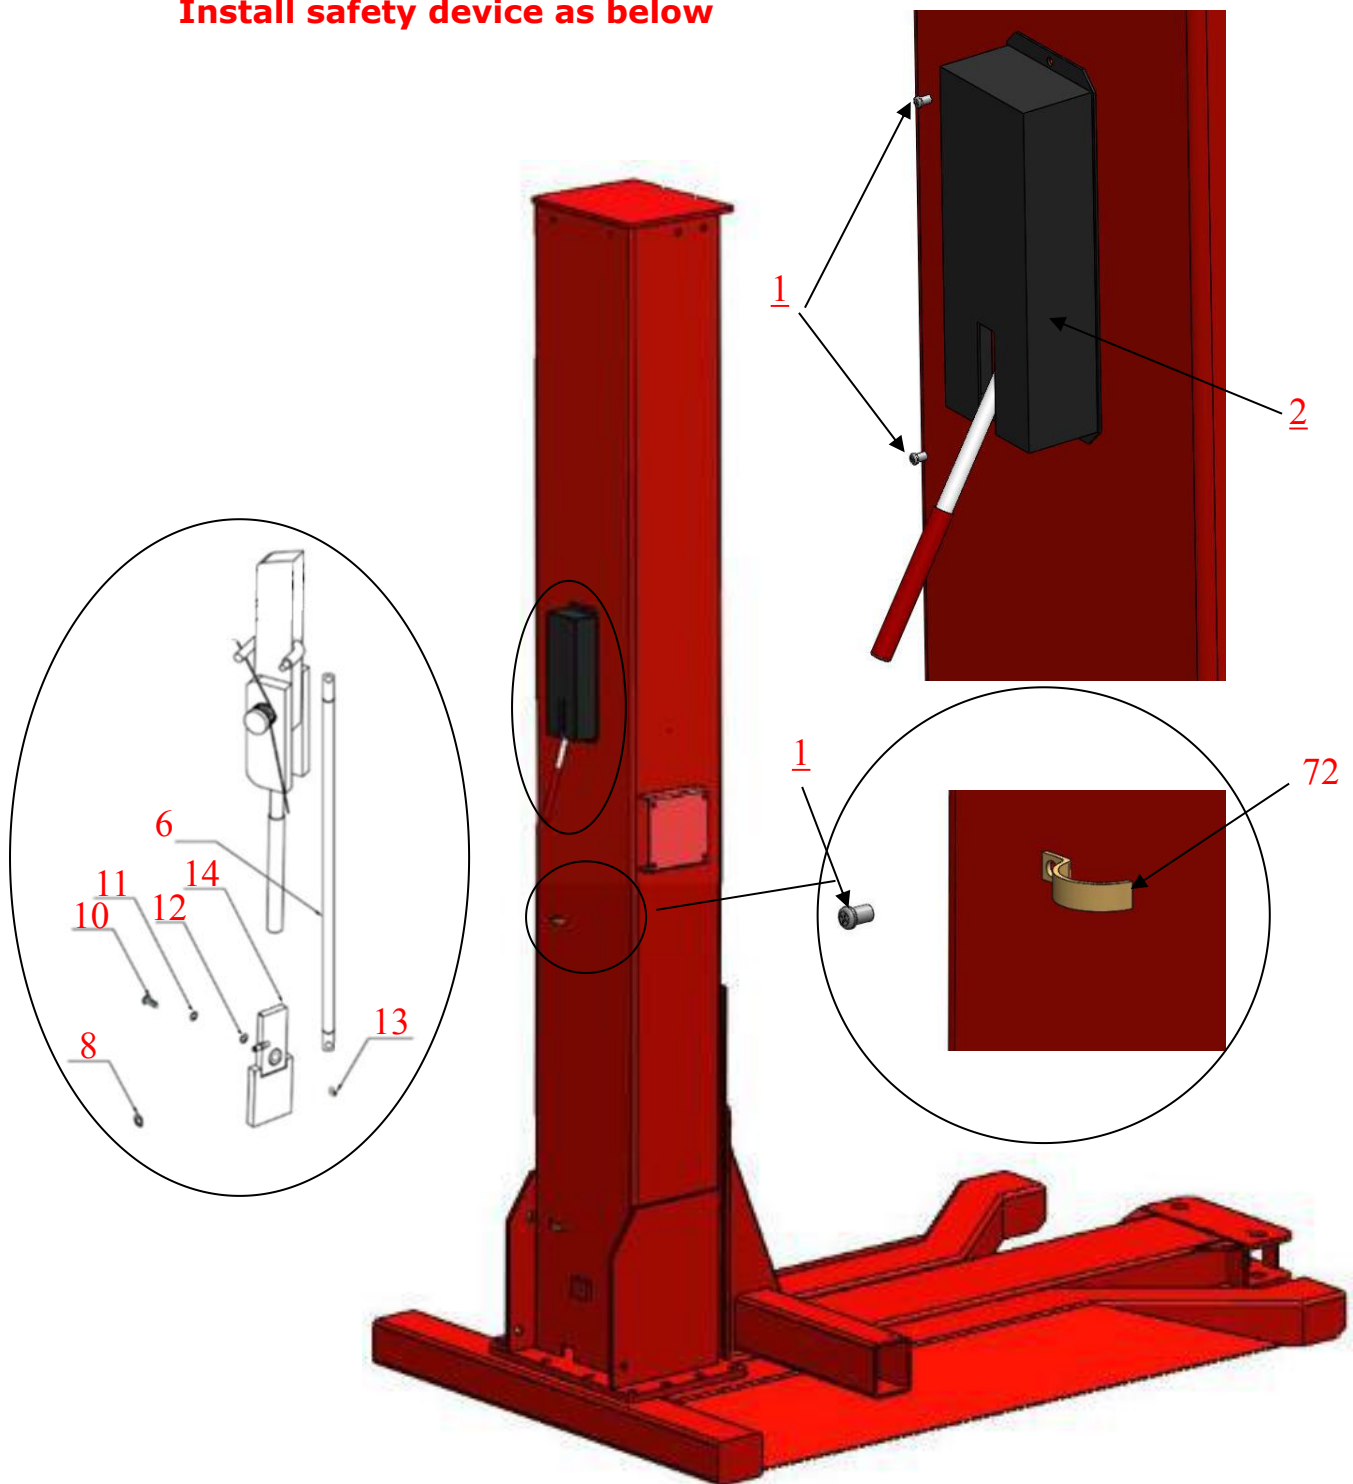

Fig.13
**E. Install cover of the safety device, retainer and protective cover (See Fig.13)